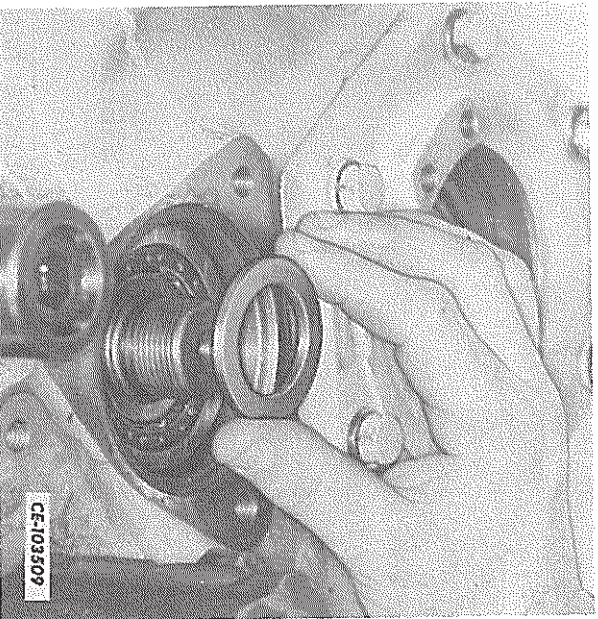
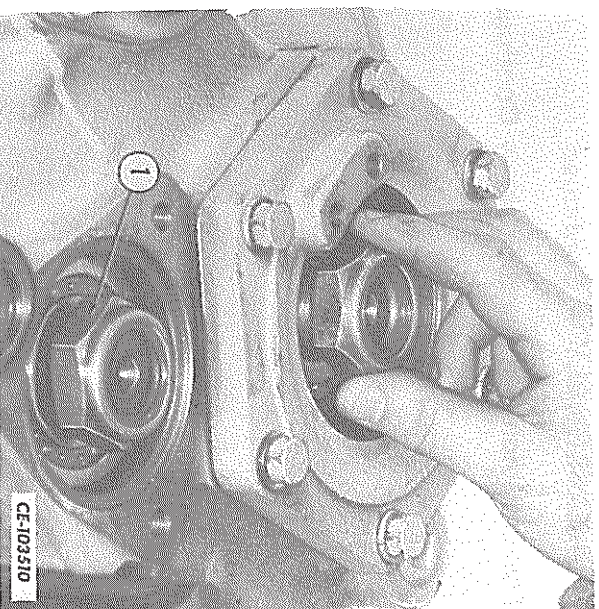

FIG. 85 – Installing the Spline Shaft Front Bearing Plate
FIG. 86 – Installing the Pinion Shaft and Spline Shaft Front Nuts
57. Install the front bearing plate (Fig. 85) and a new nut (1, Fig. 86) on the spline shaft. Install a new nut on the front of the bevel pinion shaft (Fig. 86).